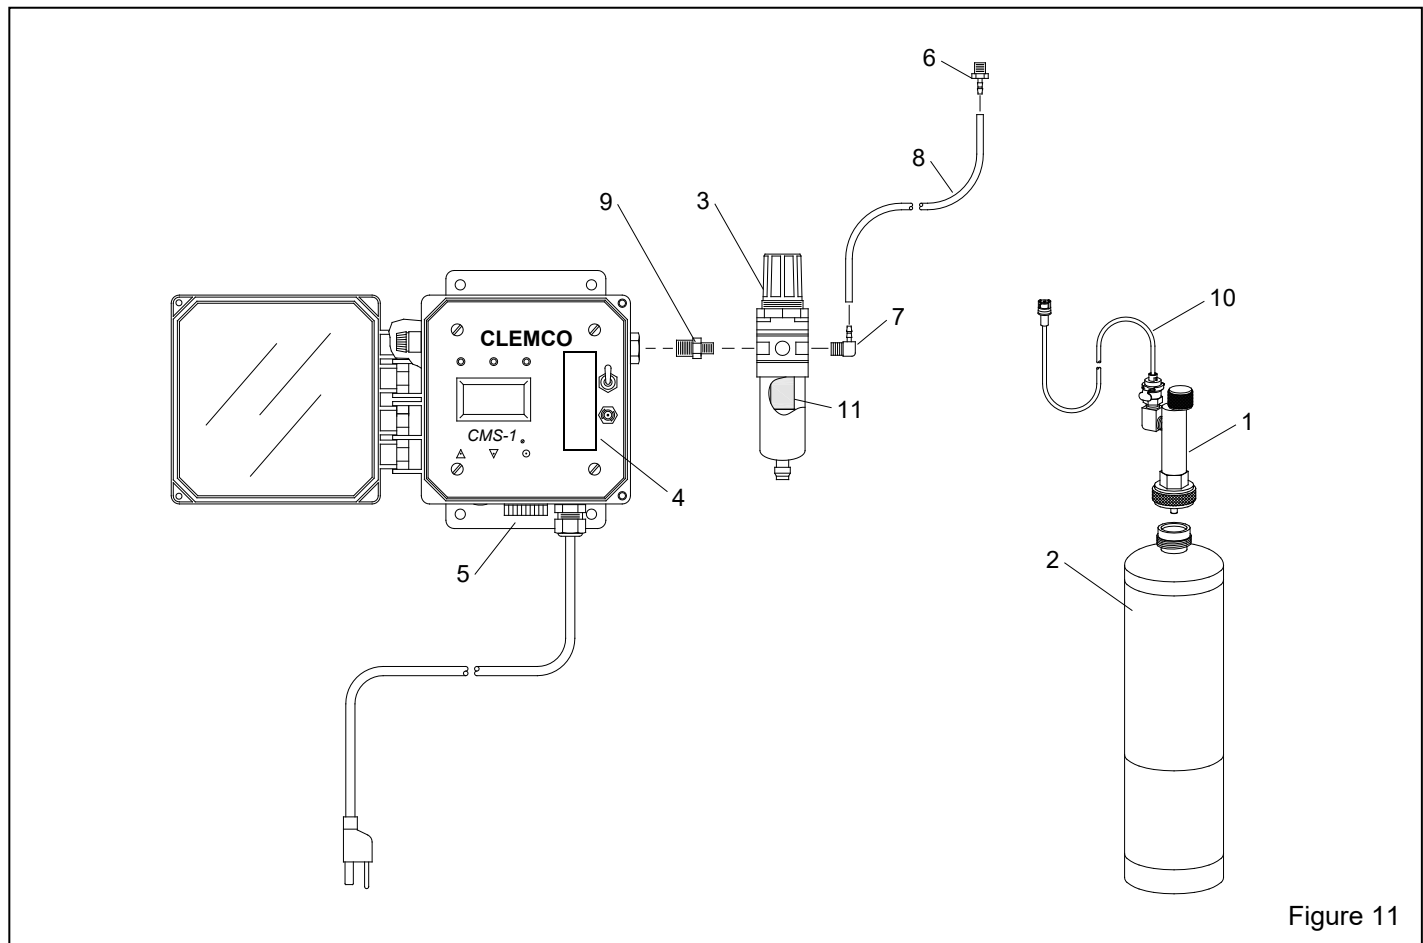

Figure 11
**9.2 Replacement Parts – Figure 11**